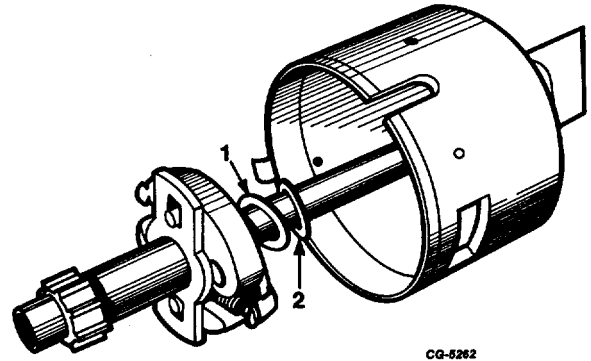

Fig. 21 Upper Thrust Washers (Distributors Without Tachometer Drive)
8. Withdraw distributor shaft assembly from distributor housing. Be careful not to lose upper thrust washer(s) (Figures 21 and 22).